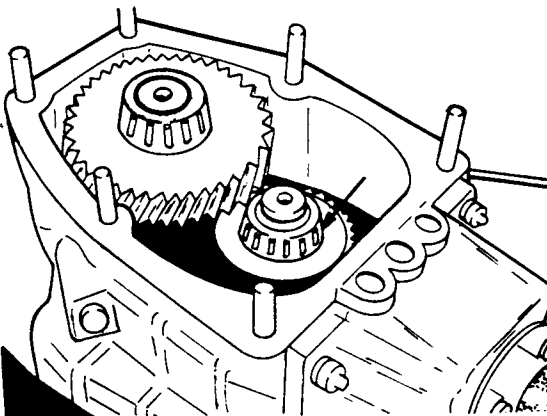

Fig H1.48
- (7) Refer to Fig H1.48. Remember that the roller bearing, where the main shaft rests and centres itself, must remain on the end of the above mentioned shaft.